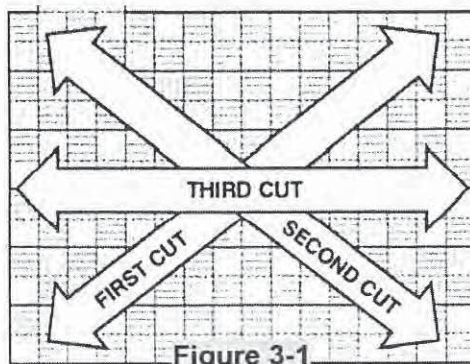

Figure 3-1
- C. First cut should be at a diagonal (see Figure 3-1), using the finest grit possible that will flatten the floor. (The National Wood Flooring publication *Wood Species Used in Wood Flooring* includes suggestions on sanding sequences for some of the more difficult to sand species.)